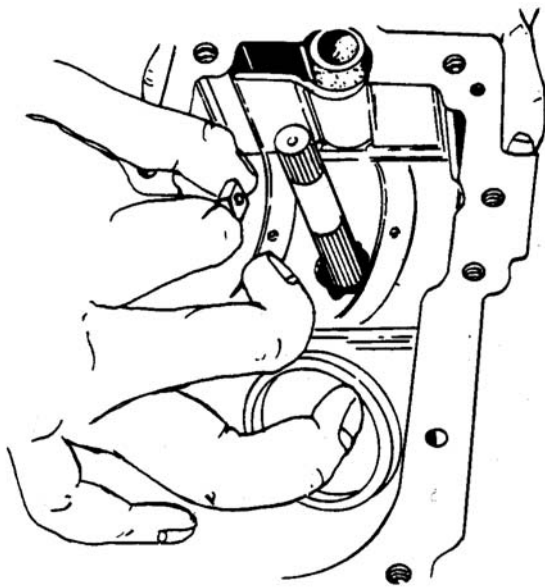

Figure 6-48. Installing Slot Guide
- b. Slide slot guide on trunnion arm. See Figure 6-48.